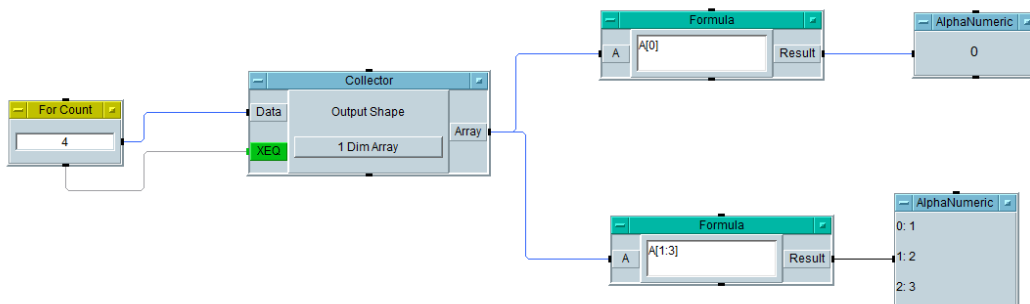

Fig. 29. Displaying the content of an array
- When you run the program, you will observe the results as in Fig. 29.